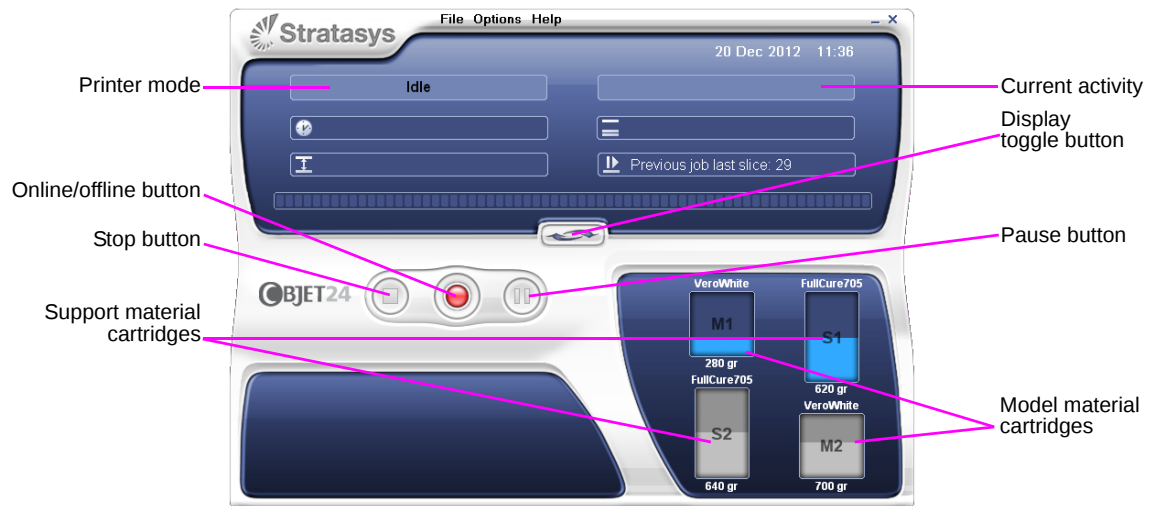

Figure 6-3: Objet24 interface
The Objet printer interface screen opens (see figure 6-3). All monitoring and controlling of the printer is done from this interface.
Objet24 printers use two cartridges of model material and two cartridges of support material, each weighing one kilogram when full. A graphical representation of the cartridges loaded and their current weight appears in the printer interface (see figure 6-3).
5. Check the printer interface to make sure that the new cartridge is detected and that its weight is displayed (see figure 6-3).
2. Make sure that there is sufficient model and support material loaded, as indicated in the printer interface (see figure 6-3). You may want to replace the cartridges of model and support material currently loaded in the printer to avoid the need for replacing them during printing.
1. If the printer is in offline mode, switch it to online mode by clicking the red button at the bottom of the printer interface (see figure 6-3 on page 3).